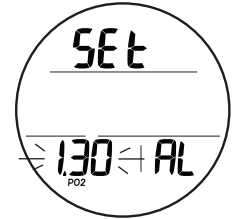

Fig. 57 - SET PO2 AL
**Set PO2 Alarm** (NORM), information includes (Fig. 57):